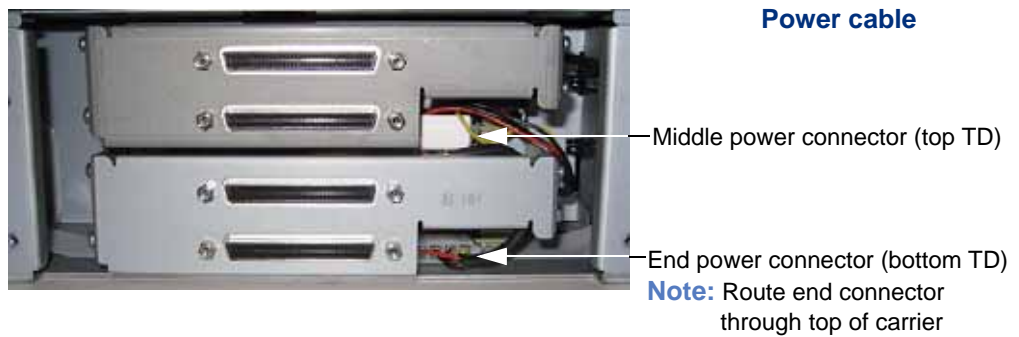

Figure 7-4 Power cable routing— IBM half height SCSI tape drive
- e. Connect the power cable(s) to the tape drive. Ensure that the power cable is not wrapped around the serial cable. See Figure 7-4 through Figure 7-7 on page 173 for correct power cable routing information.